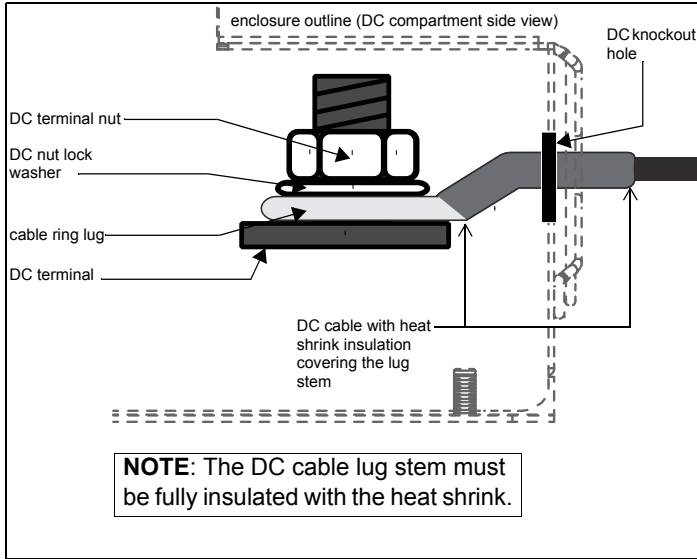

Figure 5 DC Cable Connections
Refer to Figure 5.
7. Attach the cable ring lug that will join the cable to the inverter DC terminal. Cover the lug stem with heat shrink insulation (see Figure 5) to ensure that the lug does not touch the enclosure.
11. Fasten the DC terminal nut (set aside earlier) to the terminal bolt. Tighten the nut to a torque of 71–80 in-lb (8–9 N-m) of force. Do not overtighten. Make the connection snug enough so the cable lug does not move around on the DC terminal. Center it through the DC knockout hole and do not let it touch the edge. See Figure 5, “DC Cable Connections” on page 29.